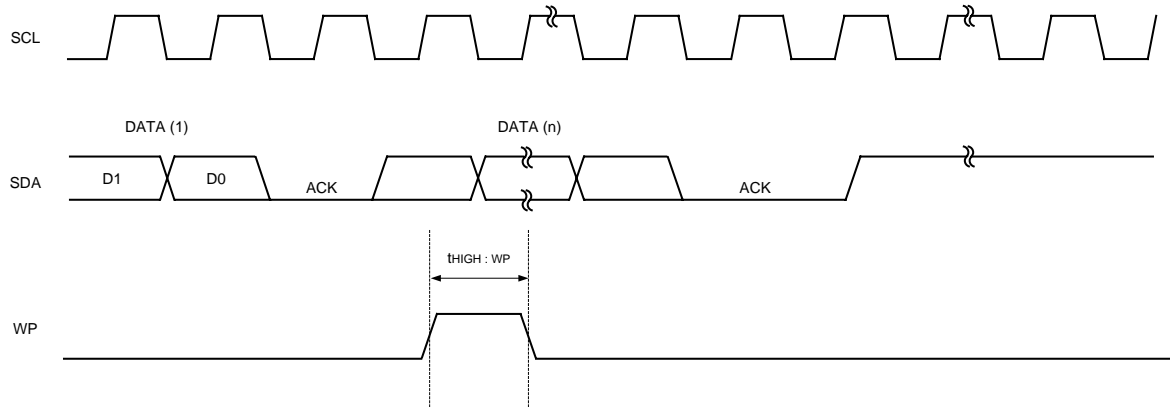

Fig.6(b) WP TIMING OF THE WRITE CANCEL OPERATION
- For the WRITE operation, WP must be "LOW" during the period of time from the rising edge of the clock which takes in D0 of first byte until the end of tWR. ( See Fig.6 (a) )